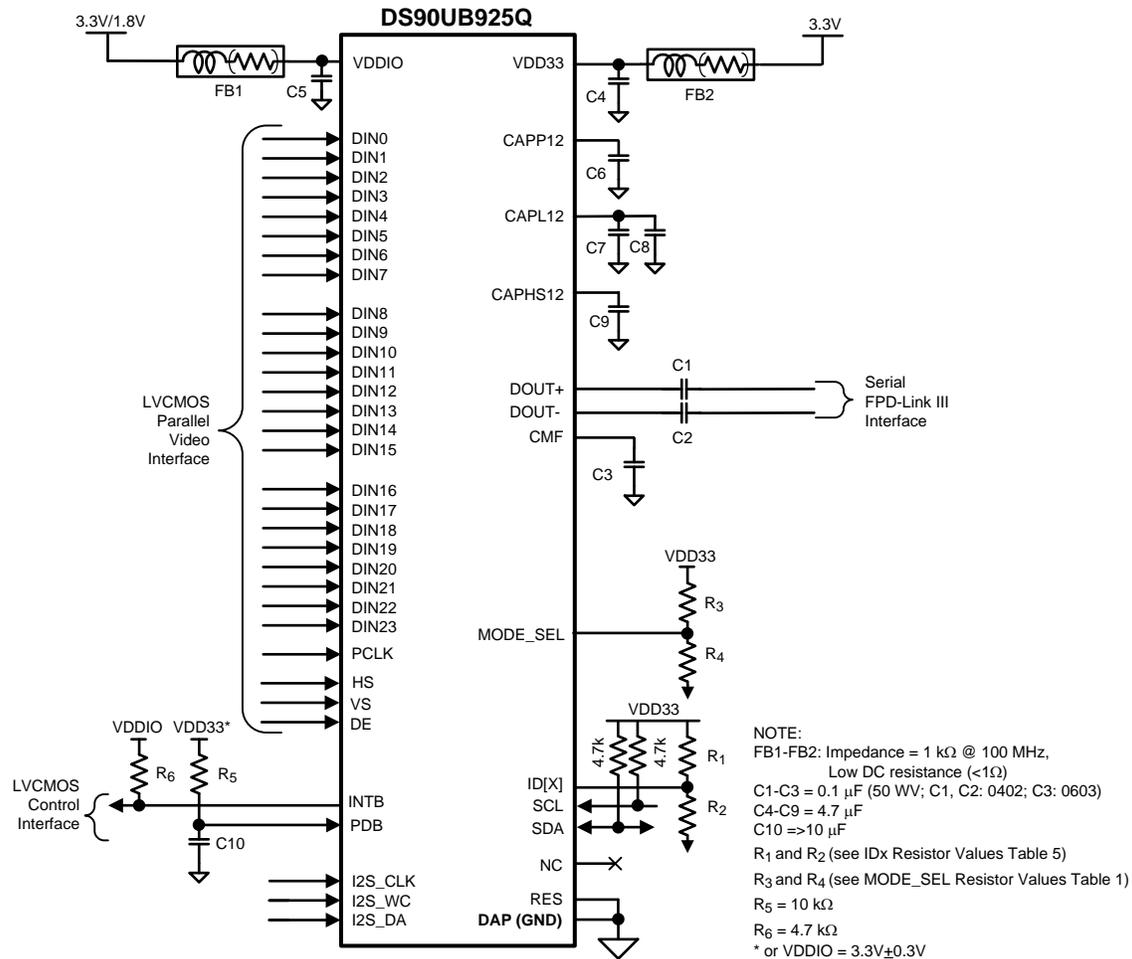

Figure 22. Typical Connection Diagram
Figure 22 shows a typical application of the DS90UB925Q serializer for an 85 MHz 24-bit Color Display Application. The CML outputs must have an external 0.1 μ F AC coupling capacitor on the high speed serial lines. The serializer has an internal termination. Bypass capacitors are placed near the power supply pins. At a minimum, six (6) 4.7 μ F capacitors and two (2) additional 1 μ F capacitors should be used for local device bypassing. Ferrite beads are placed on the two (2) VDDs (V_{DD33} and V_{DDIO}) for effective noise suppression. The interface to the graphics source is with 3.3V LVCMOS levels, thus the V_{DDIO} pin is connected to the 3.3 V rail. A RC delay is placed on the PDB signal to delay the enabling of the device until power is stable.